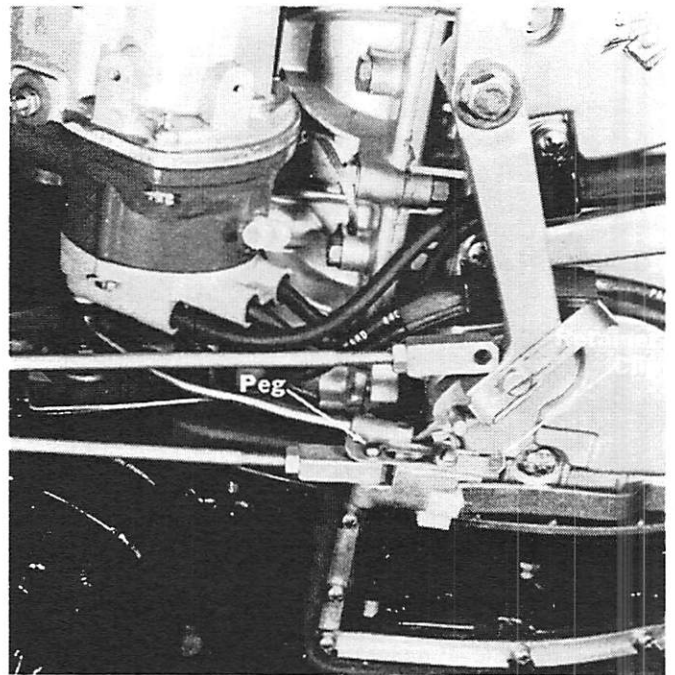

Figure 8. Shift Link Rod Installed
9. Slide spring retainer clip over link rod end. Be sure that hole in spring retainer clip is centered over peg. (Figure 8)